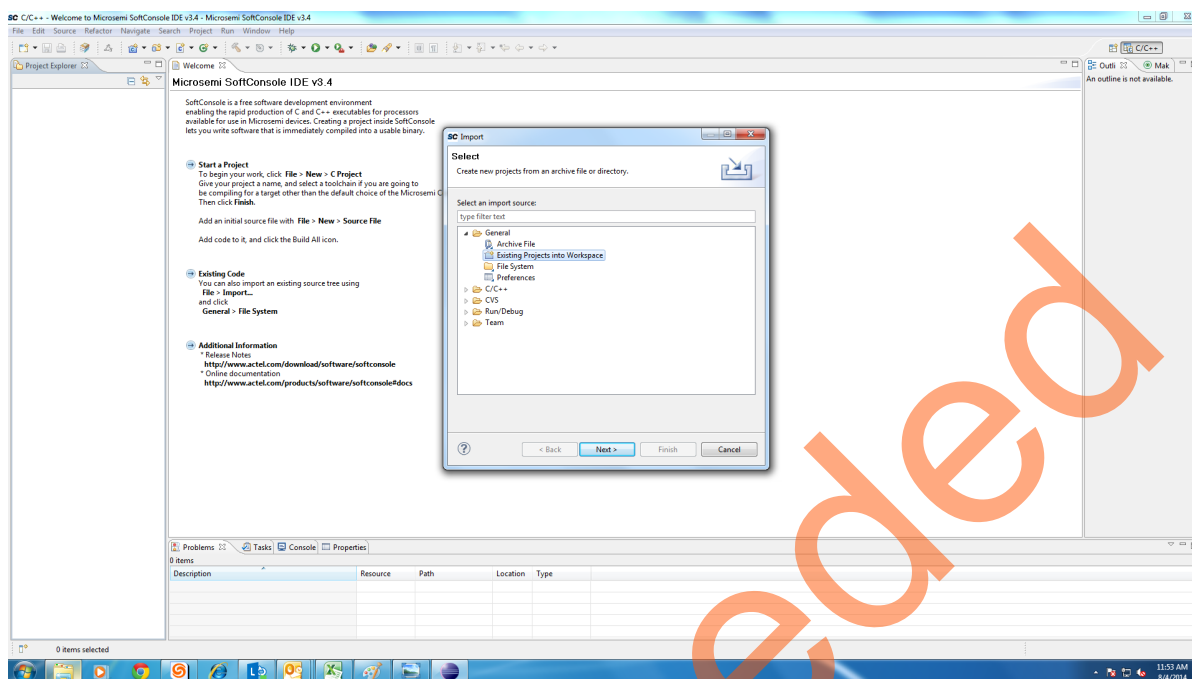

Figure 24 • Importing Existing Projects
3. Select **Existing Projects into Workspace** under General as shown in Figure 24.